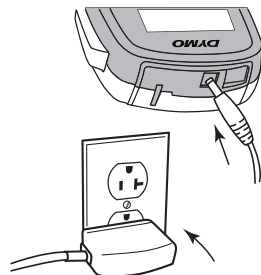

Figure 2
- 1 Plug the charging adapter into the power connector on the top of the label maker. See Figure 2.